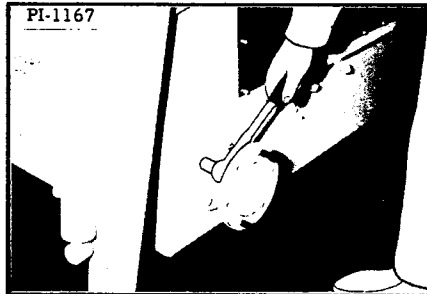

Fig. 70 Removing the Outside Hub
12. Remove the four outside axle hub mounting nuts (Figure 70).